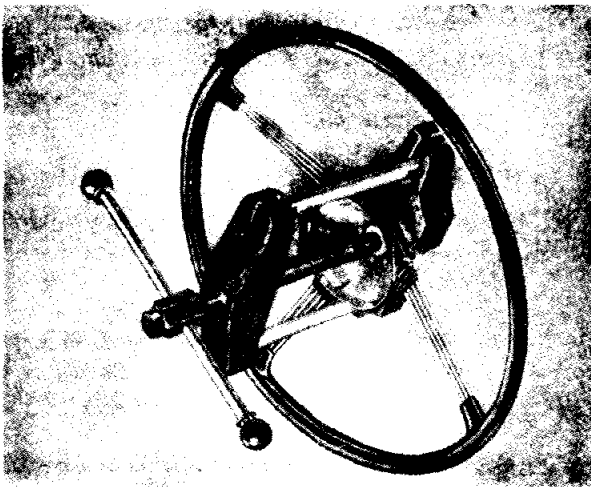

Fig. 12 Removing the Steering Wheel, utilising the Churchill Tool No. 20SM.3600.
- (c) Utilising the Churchill steering wheel remover Tool No. 20SM.3600 remove the wheel (Fig. 12).